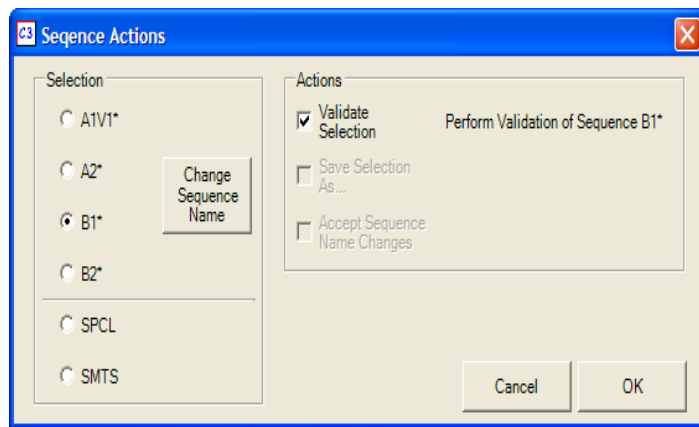

Figure 3. Sequence Actions
- Upload/Download Sequences (Figure 3 illustrates the dialog box for uploading or downloading sequences)